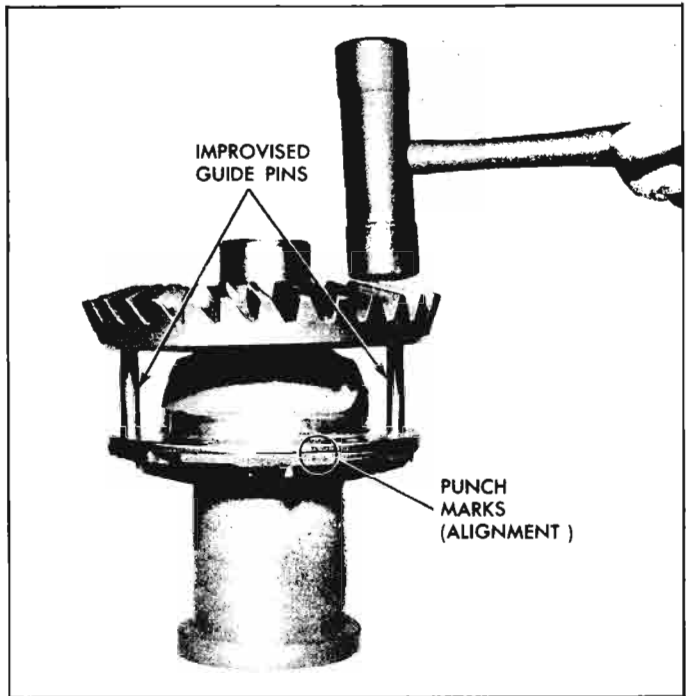

Fig. 6C-36—Installing Ring Gear on Differential Case & Cover Using Improvised Guide Pins
4. Position side gear with thrust washer installed on its hub on pinions and place differential cover on case. Align punch (fig. 6C-36) marks on edges of differential carrier and cover.